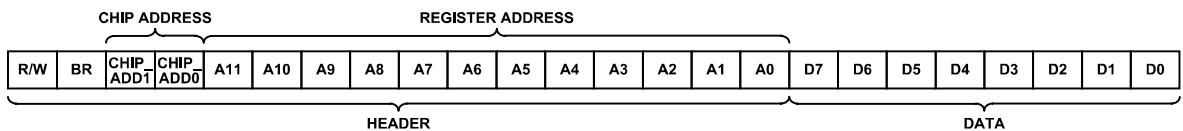

Figure 166. Single SPI Frame Timing Diagram
For single SPI instructions, the communications frame is 24-bits wide and consists of a 16-bit header and 8 bits of data. The header contains a R/W bit, a broadcast (BR) bit, two chip address bits, and 12 register address bits. Both the header and data are organized MSB first and must be shifted in on SDIO with the chip sampling the logic level on the rising edge of SCLK. See Figure 166 for the SPI communications frame.